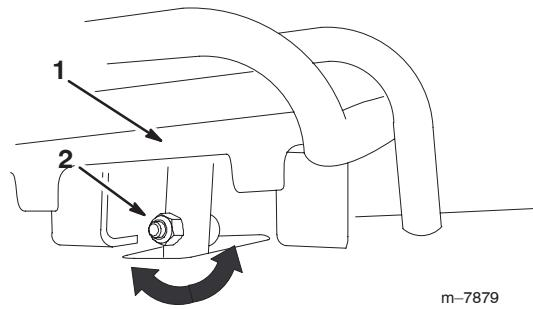

Figure 24
4. If the front of the traction control does not rest square and flush with the reference bar, loosen the flange nut and bolt in the stem of the traction control (Fig. 24).
5. Adjust the traction control so that it rests flush against the reference bar when it is pulled straight back (Fig. 24 and 25).